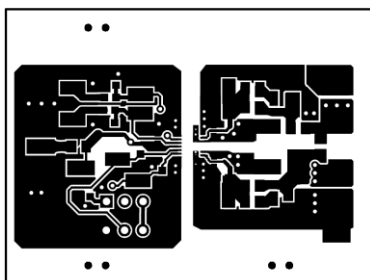
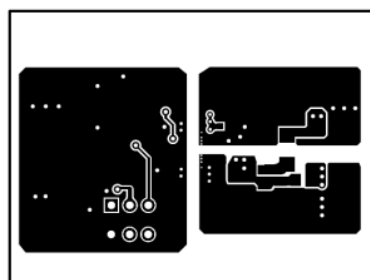

Figure 10-1. Top Layer Traces and Copper
Figure 10-2. Bottom Layer Traces and Copper
- Increasing the PCB copper connecting to VDDA, VDDb, VSSA and VSSB pins is recommended, with priority on maximizing the connection to VSSA and VSSB (see Figure 10-1 and Figure 10-2). However, high voltage PCB considerations mentioned above must be maintained.